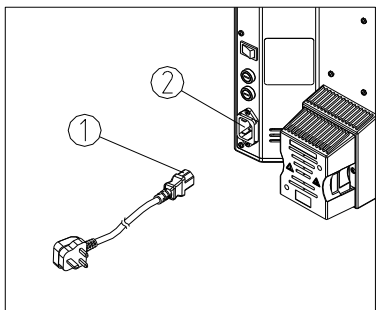

Fig.16
- (1) Make sure the main power switch is at “O” (OFF) position. (See Fig. 16)
- (2) Insert one end of power cord ① into the power socket ② of the microscope.
- (3) Insert the other end of power cord ① into the power supply socket.